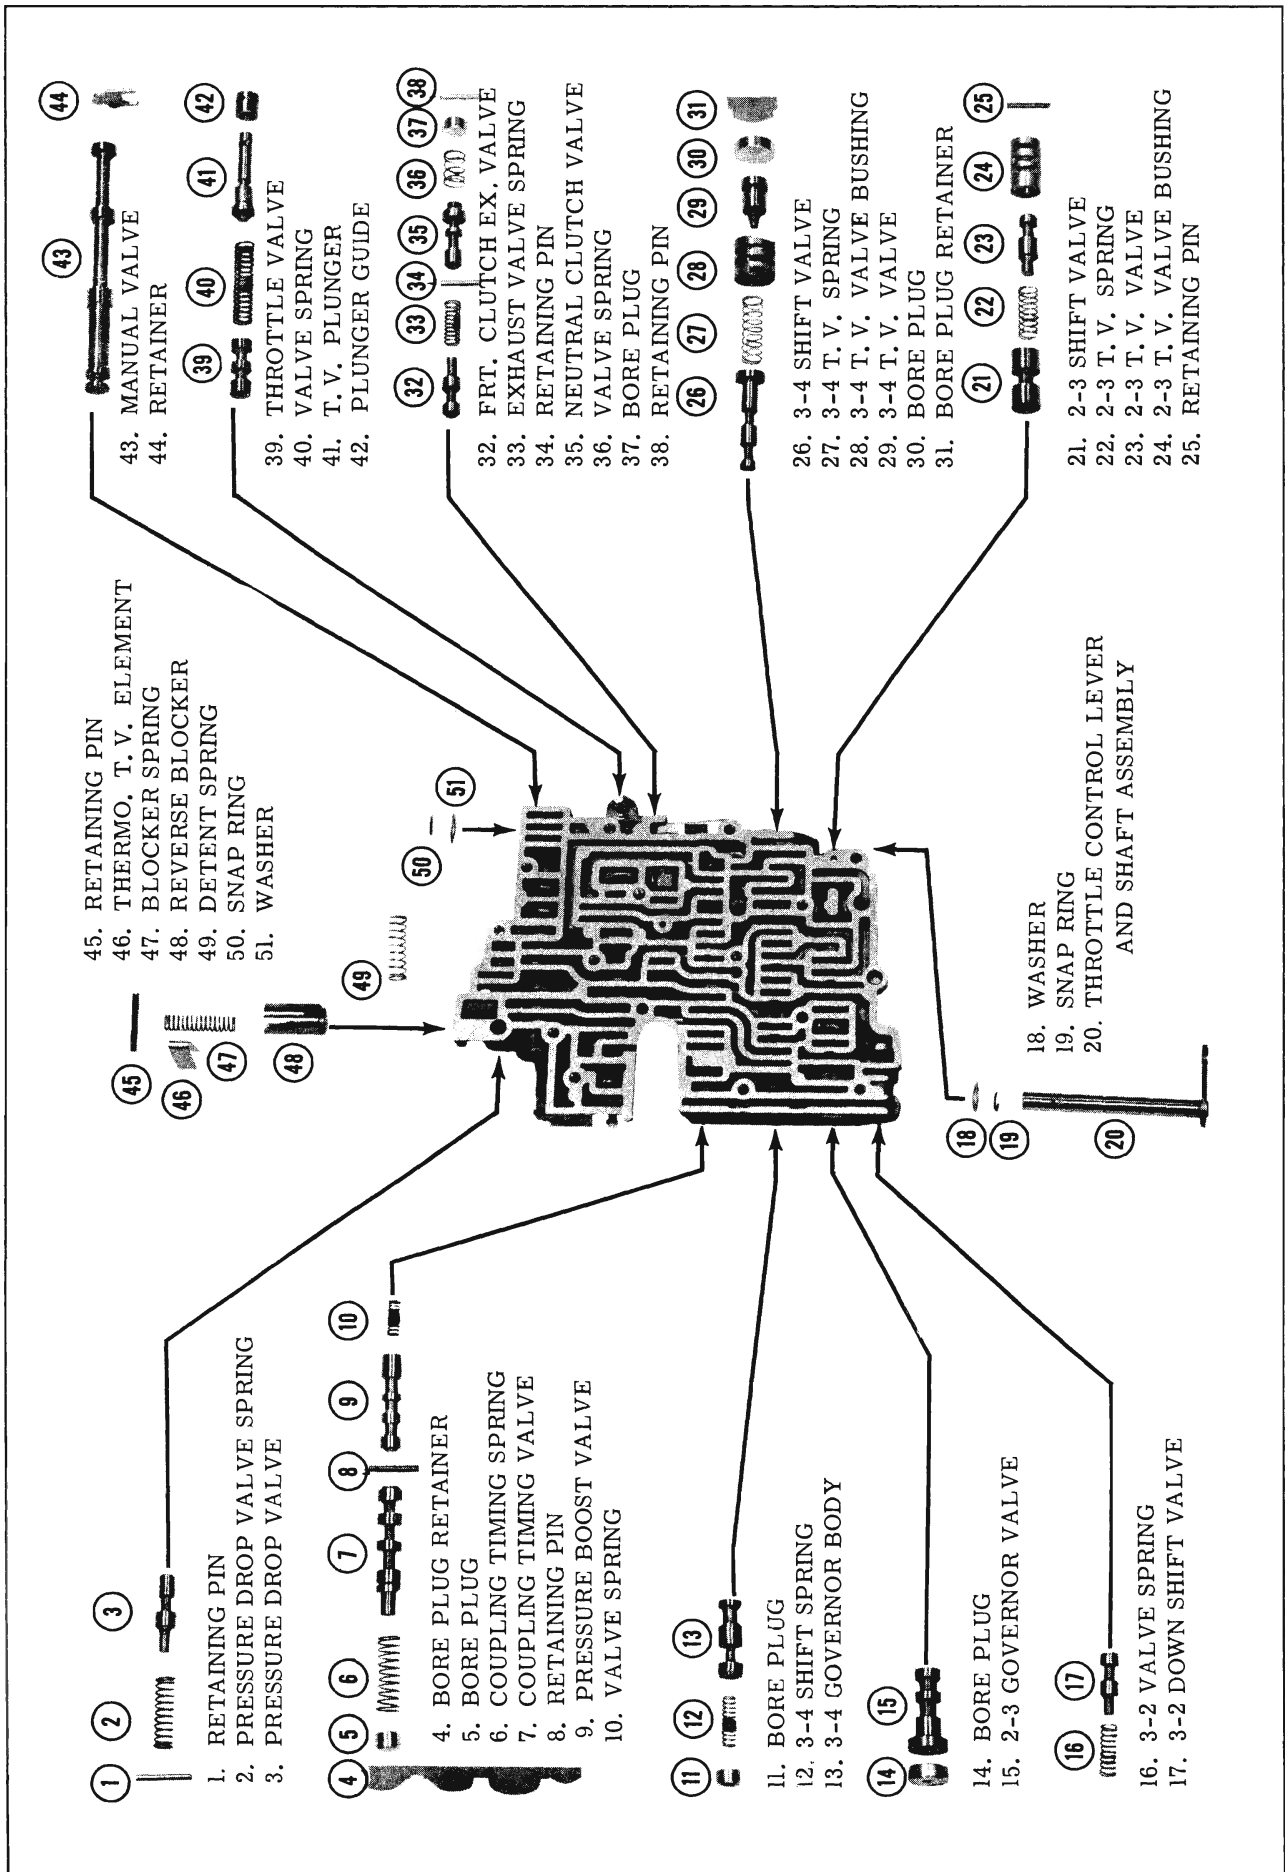

Fig. 3-91 Oil Control Valve Body
#### **ASSEMBLY—CONTROL VALVE ASSEMBLY (Fig. 3-91)**
9. Turn T.V. adjusting screw back to original position, EXACTLY 5 TURNS. (Fig. 3-91)